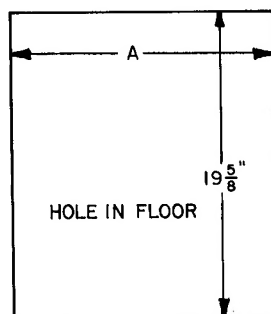

Fig. 3 — Floor Opening
- Construct hole in floor per dimensions in Fig. 3 and Table 4.
- Cut and frame hole in floor per dimensions in Fig. 3 and Table 4. If this requires cutting a floor joist, tie ends of cut joist into adjacent joists so that proper floor support is maintained.